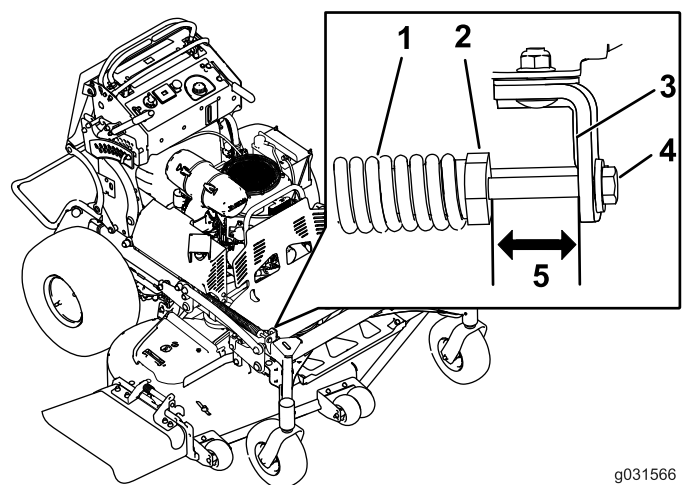

Figure 84
2. Check the distance between the spring nut and the rear side of the welded mount bracket (Figure 84).
3. Ensure that the length is between 47 to 50 mm (1.8 to 2 inches) (Figure 84).
4. If needed, adjust the distance by adjusting the bolt on the front of the mount bracket (Figure 84).